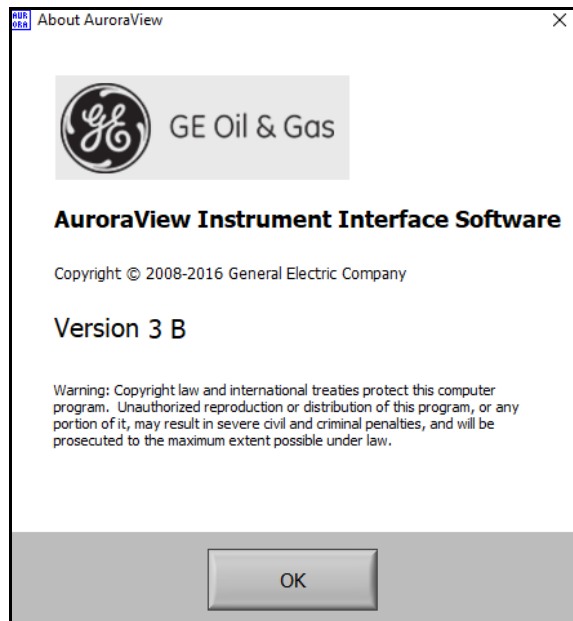

Figure 40: Software Information
6. Click Help (see *Figure 40* below).